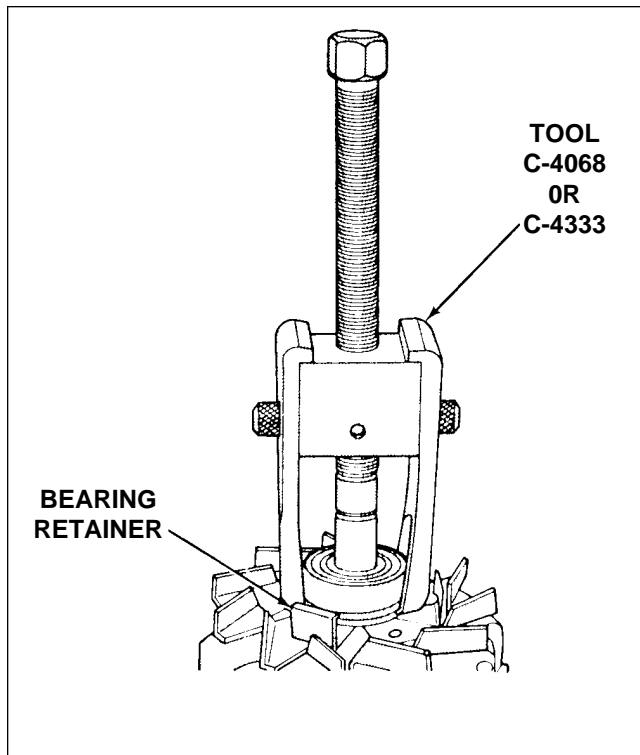

Figure 11-28. Removal of Bearing
- e. Remove drive end ball bearing with Puller Tool C-4068. (Refer to figure 11-28.)